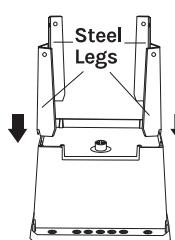

Fig. 1
- While the tub is still upside down, insert the 4 steel legs into each corner socket (see Fig. 1).